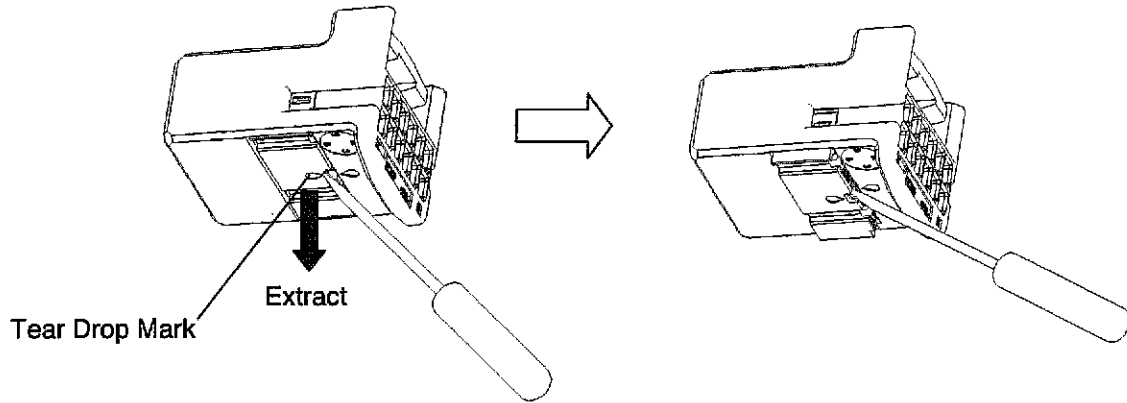

Fig.11
- (1) Insert the jig, 1mm blade screw driver, into the window of the retainer pointed by the tear drop mark. See Fig.11 (next page).
- (2) Draw out the retainer, about 1mm, to pre-assembled condition. Confirm that all of the projection is unlocked. See Fig.11 (next page).